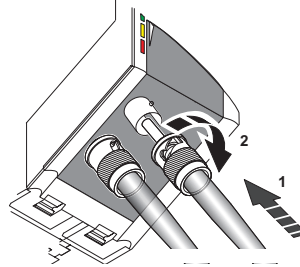

Figure 17 B-FOC connection
- Secure the connection with a quarter turn to the right (see 2 in Figure 17).